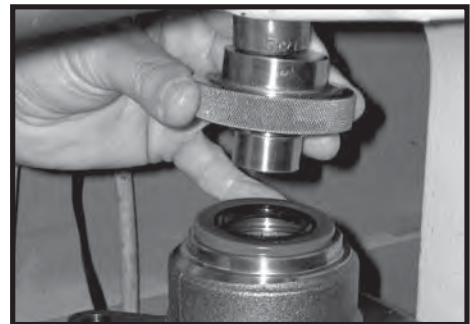

Figure 30
**CAUTION**                      **CAUTION:** If the bearing mandrel specified in the “Tools and Materials Required for Servicing” section is not available and alternate methods are used to press in bearing (13) and (19) the bearing depths specified must be achieved to insure adequate bearing support and correct relationship to adjacent components when assembled.
**CAUTION**                      **CAUTION:** Because the bearing (13) and (19) have a press fit into the housing they must be discarded when removed. They must not be reused.
3. Press a **new** dirt and water seal (20) into the housing (18) outer bearing counterbore.
- The dirt and water seal (20) must be pressed in with the lip facing out and until the seal is flush to .020 inches (.51 mm) below the end of housing. SEE FIGURE 30.